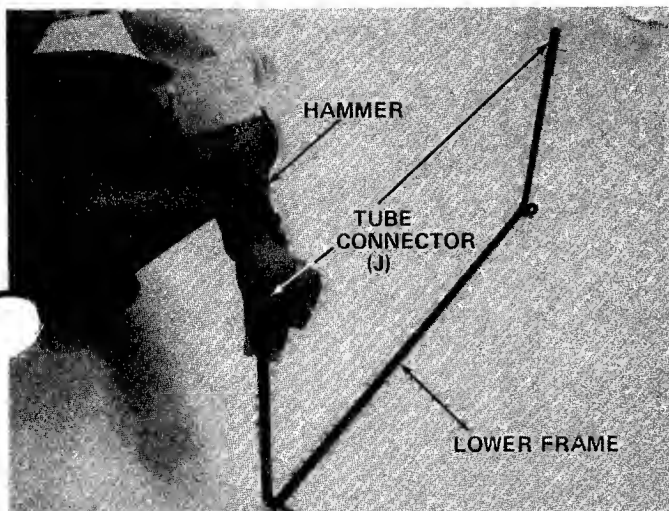

FIGURE 2
1. Place the catcher frame assembly (lower half) on the floor or work bench and with a hammer tap on the tube connectors (J), one on each end. See figure 2.